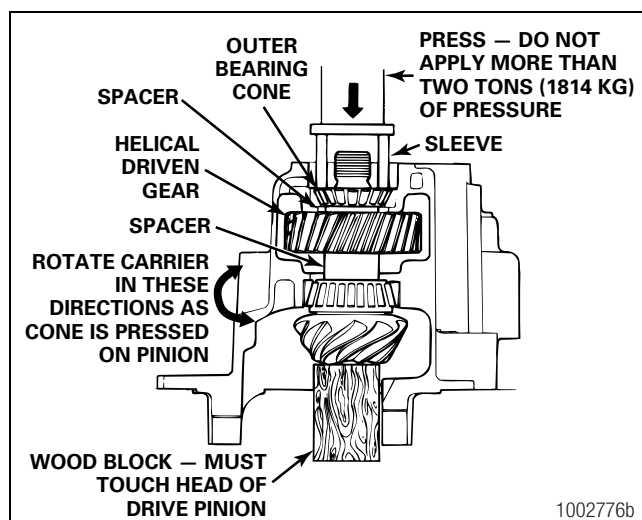

Figure 5.15
17. Place a wood block under the head of the drive pinion so that the inner bearing cone on the pinion touches the inner bearing cup in the carrier. Remove the supports from the carrier. Figure 5.15.
20. Install the outer bearing cone onto the shaft of the drive pinion. Figure 5.15.